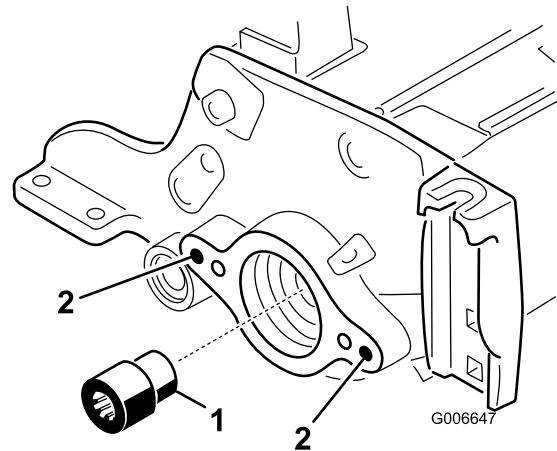

Figure 7
12. Using the Reel Drive Shaft Tool, remove the splined insert from the reel motor end of the reel shaft (Figure 7). Use Reel drive shaft tool, Part TOR4112 on models 03665 and 03666 and reel drive shaft tool, Part TOR4074 on models 03685 and 03686. Clean all the grease out of the threaded hole where the splined insert was.
13. Install the new (longer) splined insert to the reel shaft (Figure 7). Apply blue Loctite to the threads of the insert prior to installation. Torque to 85-95 ft-lb.
15. Using a 3/8-16 tap, remove the paint in the outer mounting holes in both the left and right side plates (Figure 7).